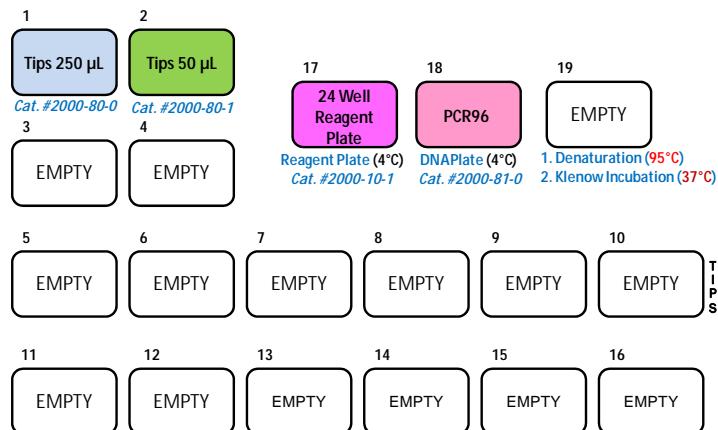
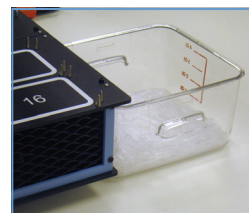

Figure 1. Deck layout for 96 labeling reactions.
Figure 2. Used tips container.
1. Ensure that all labware is placed correctly on the ArrayPrep® instrument (Figure 1). Place a container for used tips on the bench adjacent to position 10 (Figure 2).